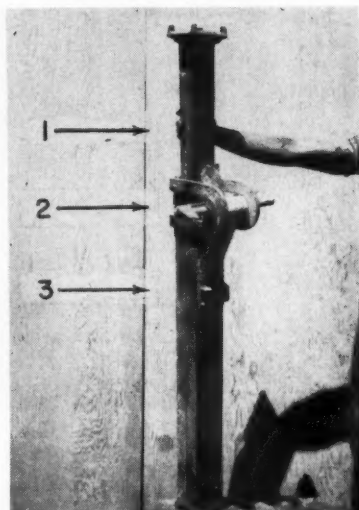

Fig. 4. Becorit prop assembly showing: (1) inner prop, (2) locking device and (3) hollow outer prop
The three parts of the Becorit prop (figure 4) are; (1) an inner prop, sliding through (2) a locking device which is welded to (3), the hollow outer prop. The lock provides adjustment for length and permits setting and removal.